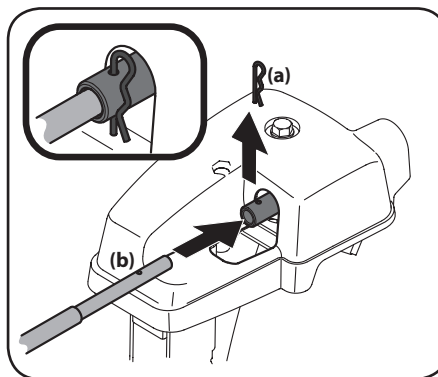

Figure 2-37
4. Remove hairpin clip (a) from rear of chute control assembly. See Figure 2-37.